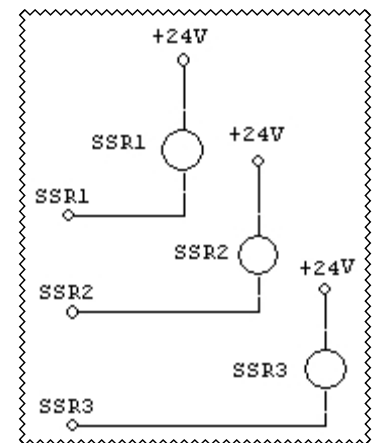

Fig. 3
5. Connect 3 solid state relays to the outputs of the PLC as in Fig. 3. The solid state relays contain an LED indicator which shows the operation of the relay coil. Run the program and observe that the LED indicators are operating according to the ladder logic the same as the LEDs on the PLC outputs.